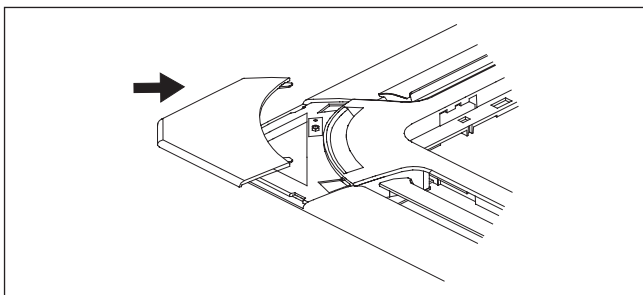

Fig. 47.
6. Fasten the installation covers at all four corners by pushing them inwards. (See Fig. 47)